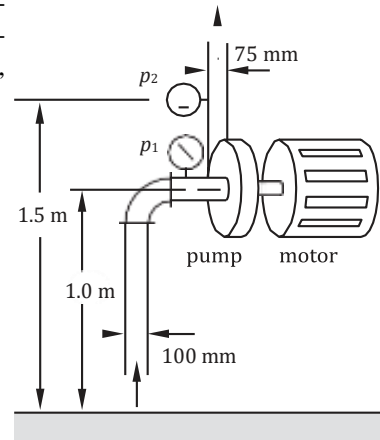

FIGURE P2.42.
42. A pump moving hexane is illustrated in Figure P2.42. The flow rate is $0.02 \text{ m}^3/\text{s}$; inlet and outlet gage pressure readings are -4 kPa and 190 kPa , respectively. Determine the required power input to the fluid as it flows through the pump.